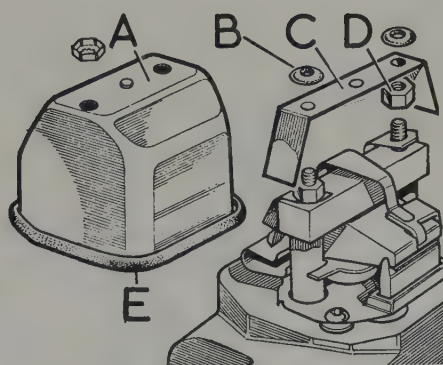

Fig. 9.14. Rear caliper cover components
- 1 Remove the self locking nuts which retain the cover (Fig. 9.14).